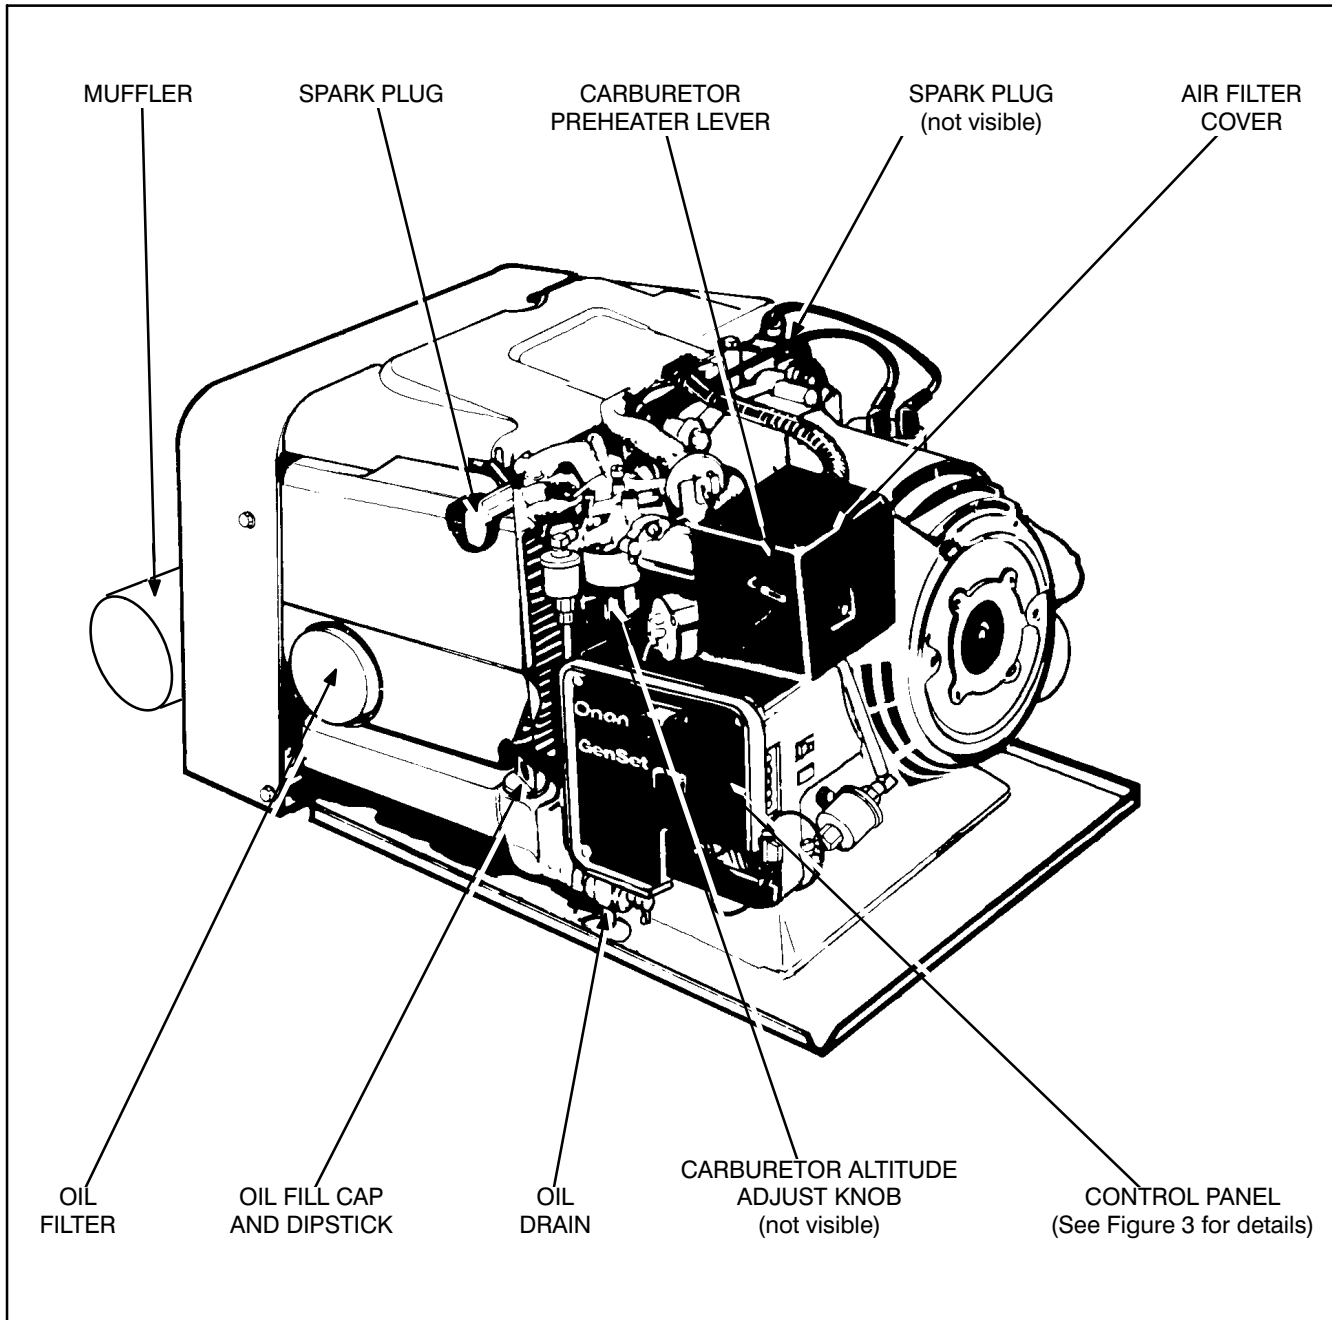

FIGURE 2. COMPONENT LOCATIONS
*ic Maintenance*) are located as shown in Figure 2. The genset itself is located in a dedicated compartment on the deck of the pontoon boat.